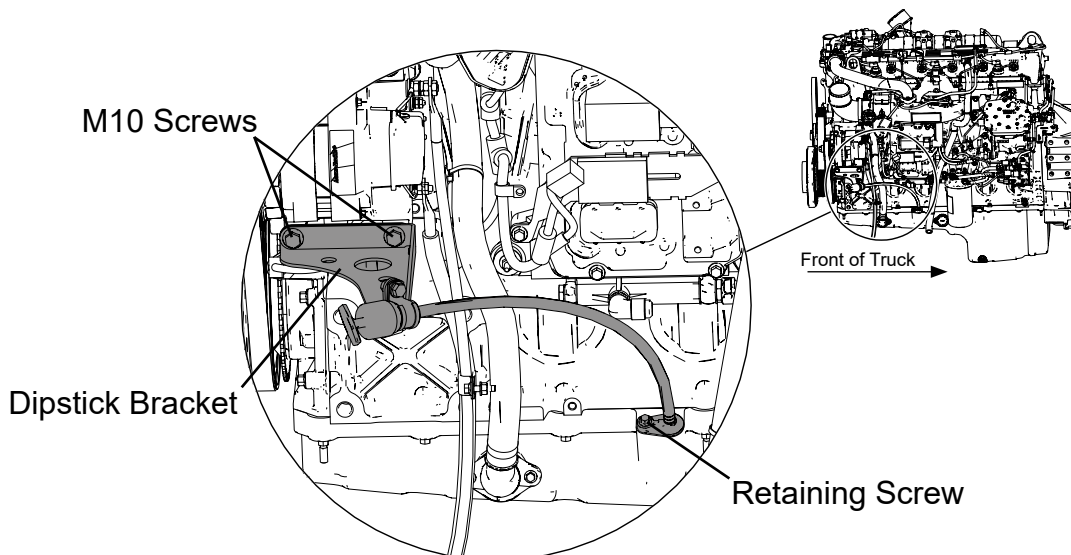

Figure 1
4. Locate dipstick assembly on right side of vehicle engine, see Figure 1.
5. Loosen and remove retaining screw securing dipstick to engine block, see Figure 1. Save retaining screw.
6. Loosen and remove two M10 screws securing dipstick bracket to alternator, see Figure 1.